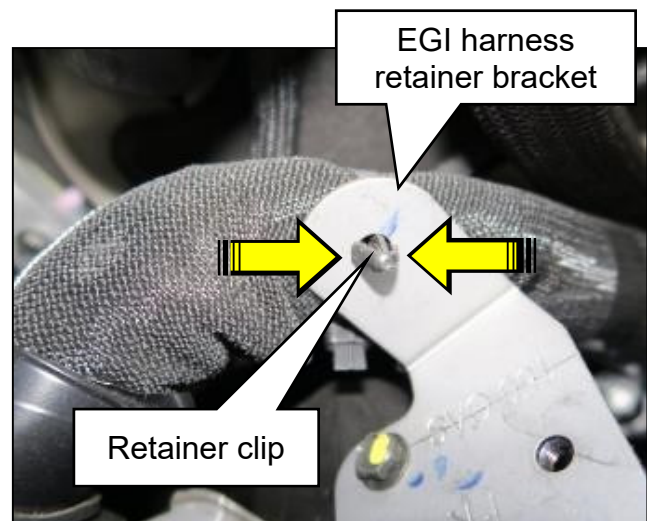

Figure 6
6. Disengage the harness retainer as shown in Figure 6.